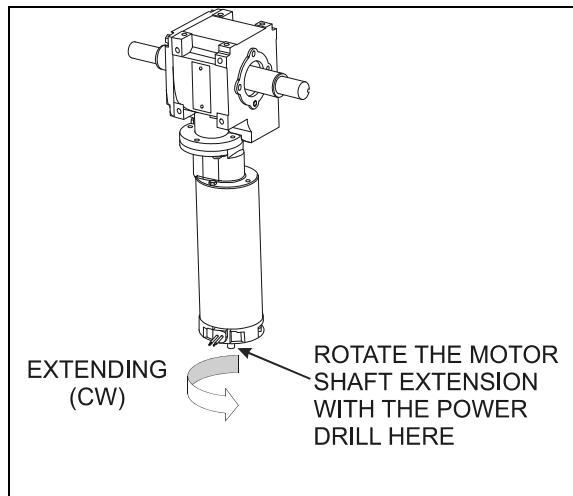

FIGURE 94 : SLIDE-OUT MOTOR ROTATION
5. Rotate the slide-out motor shaft extension with the power drill until the slide-out comes to its opened position (FIGURE 94).